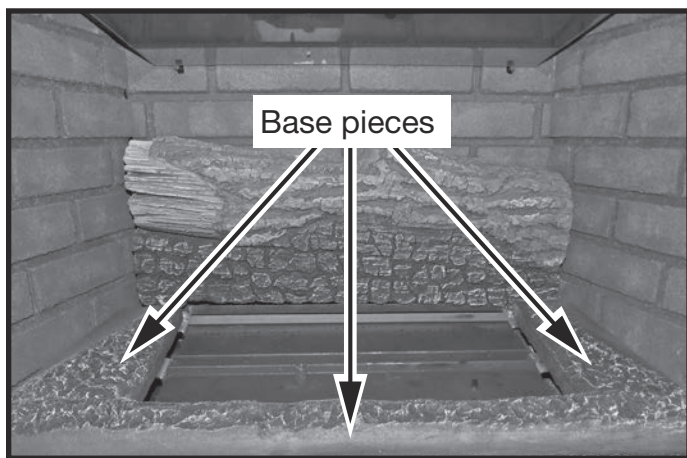

Figure 74: Three base pieces.
7. Install the three base pieces (Figure 55) as shown in Figure 74. The base pieces, in addition to adding an aesthetic dimension to the overall appearance, help to complete an enclosure for holding the ember pieces / glowing ember material pieces on top of the burners. The two side pieces have one hole each to accept the posts protruding from the bottom of logs two and four.